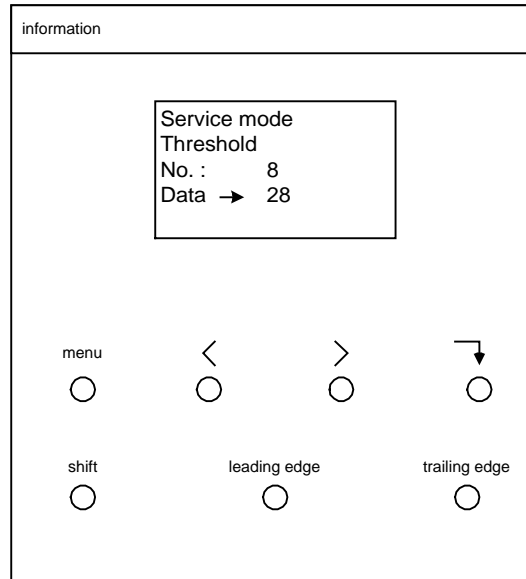

Figure 4. Information Panel
4. Change the data value using the alphanumeric keypad. The Information Panel display (Figure 4) will change from: